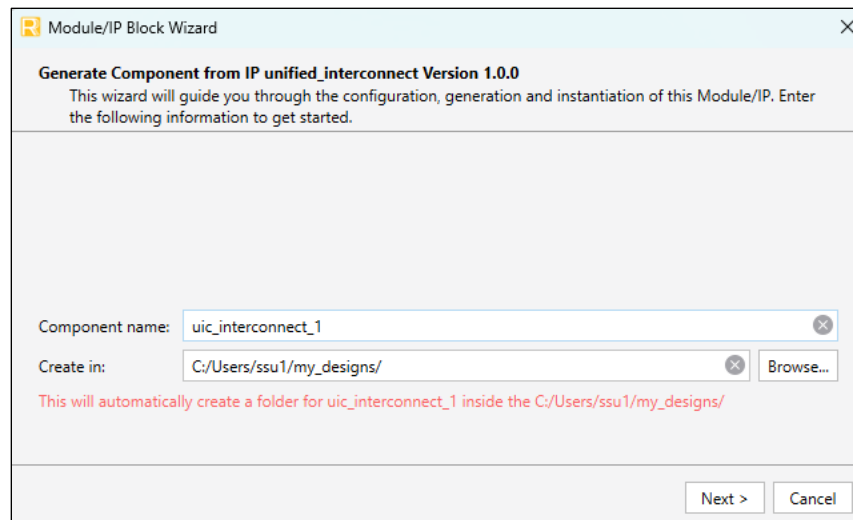

Figure 5.1. Module/IP Block Wizard
- Click **Finish**. All generated files are placed in the directory specified by the **Component name** and **Create in** fields shown in Figure 5.1.